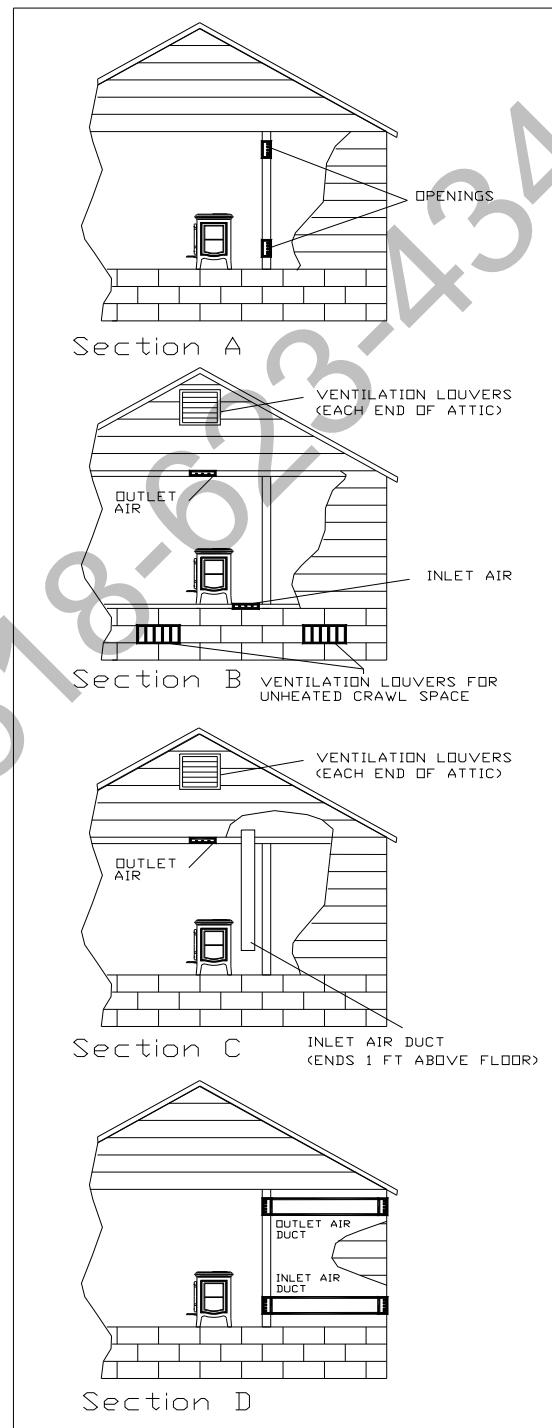

Figure 3
1. *Air from inside the building.* The confined space shall be provided with two permanent openings communicating directly with an additional room(s), of sufficient volume, so that the combined volume of all spaces meets the criteria for an unconfined space. The total input of all gas utilization equipment installed in the combined space shall be considered in making this determination. Each opening shall have a minimum free area of 1 square inch per 1,000 BTU/hr (22 cm² / kW) of the total input rating of all gas utilization equipment in the confined space, but not less than 100 square inches (645 cm²). One opening shall commence within 12 inches (30 cm) of the top, and one opening shall commence within 12 inches (30 cm) of the bottom, of the enclosure. The minimum dimension of air openings shall not be less than 9 square inches (8 cm) (see Figure 3).
2. *All air from outdoors.* The confined space needs to have two permanent openings, one commencing within 12 inches (30 cm) of the top, and one commencing within 12 inches (30 cm) of the bottom, of the enclosure. The openings shall communicate freely with the outdoors, either directly, by ducts, or by spaces (crawl or attic). The minimum dimension of air openings shall be not less than 9 square inches (8 cm). See Figure 3.
A. Where directly communicating with the outdoors, each opening shall have a minimum free area of 1 square inch per 4,000 BTU/hr (5.5 cm² / kW) of total input rating of all equipment in the enclosure. See Figure 3.
B. Where communicating with the outdoors through vertical ducts, each opening shall have a minimum free area of 1 square inch per 4,000 BTU/hr (5.5 cm² / kW) of total input rating of all equipment in the enclosure (See Figure 3).
C. Where communicating with the outdoors through horizontal ducts, each opening shall have a minimum free area of 1 square inch per 2,000 BTU/hr (11 cm² / kW) of total input rating of all equipment in the enclosure (See Figure 3).